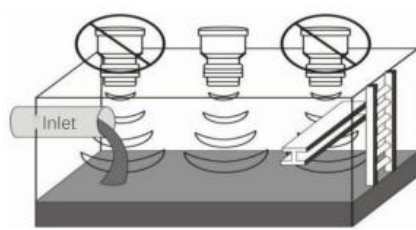

Figure 1
7.1.1 The probe generates both an ultrasonic pulse wave and a detection echo, which propagates from the surface of the probe in a certain conical wavefront. In this area, there should be no obstruction and away from the inlet. The installation position of the probe should be chosen in a position where there is no obstacle between the emitting surface of the probe and the medium to be measured. See Figure 1.